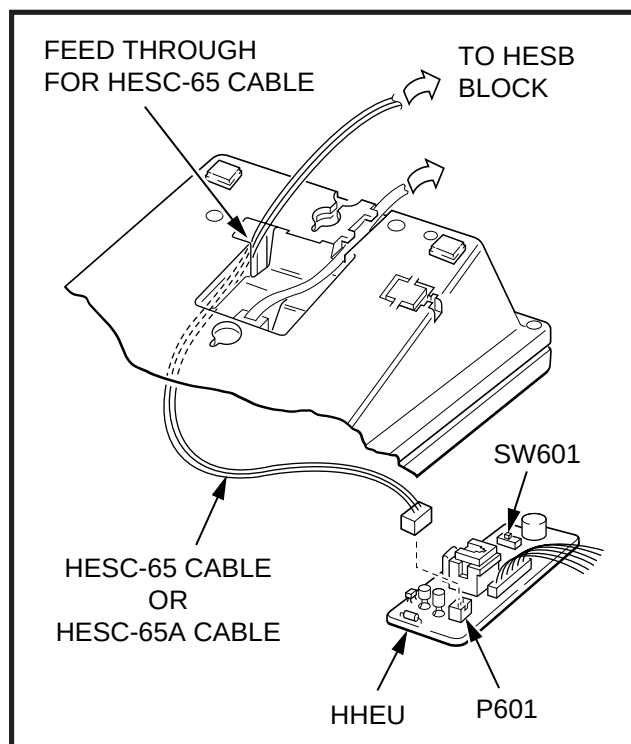

FIGURE 7-11 HESC-65A CABLING
- 4) Connect the HESC-65A cable to **P601** of the HHEU (both HHEU1A versions and the HHEU2 have **P601**) if the Loud Ringing Bell option is required (Figure 7-11). Refer to Section **400-096-208** for HESB installation procedures.
- 4) Connect the HESC-65 or HESC-65A cable (either one) to **P601** of the HHEU if the Loud Ringing Bell option is required (Figure 7-11). Refer to Section **400-096-208** for HESB installation procedures.